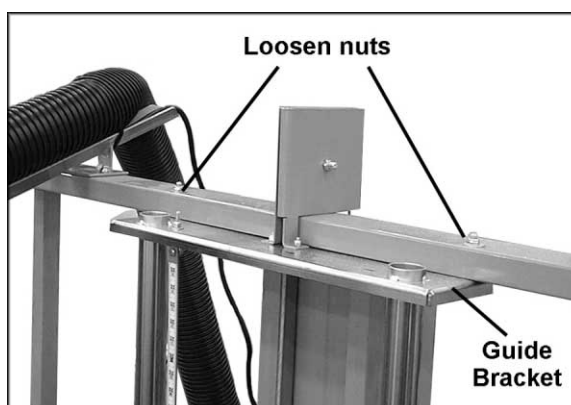

Figure 20
4. Loosen the guide bracket nuts, Figure 20, but do not remove the bracket. With a dead blow mallet, strike the bracket on the side in the direction you want the guides to go. **Do not strike the guides.**